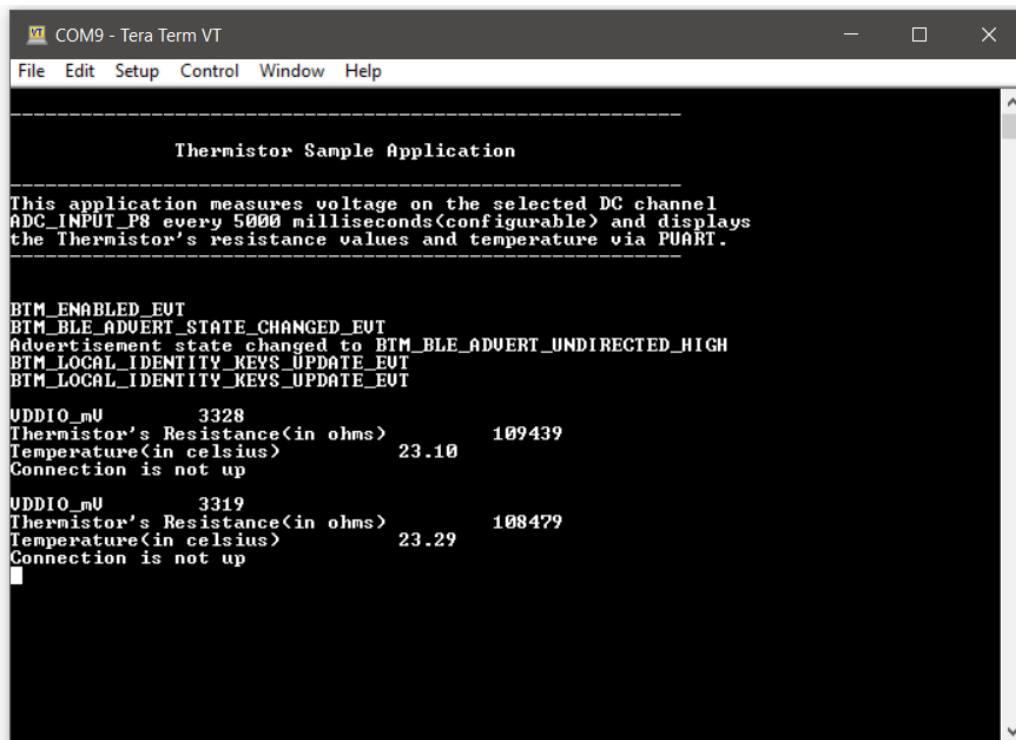

Figure 4-3. `env_sensing_temp` output
3. You will see the resistance of the thermistor and the equivalent temperature at an interval of five seconds as shown in Figure 4-3.